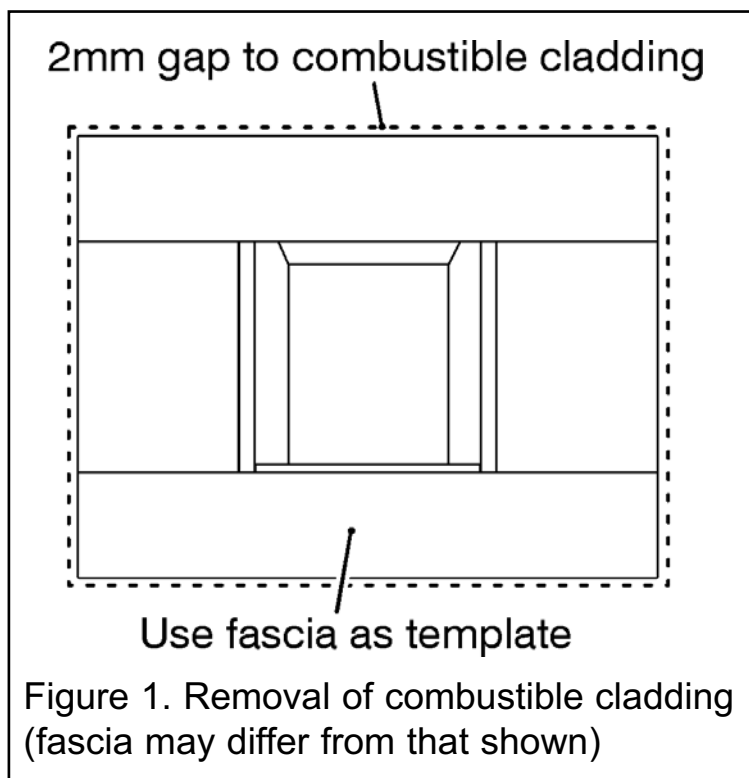

Figure 1. Removal of combustible cladding (fascia may differ from that shown)
**3.7.4** If the appliance is to be fitted against a wall with combustible cladding, the cladding must be removed from the area covered by the fascia. The cladding must also not touch the fascia (See figure 1). We suggest that the actual fascia is used as a template to mark the area for combustible cladding removal and that this area is increased by at least 2mm all round.